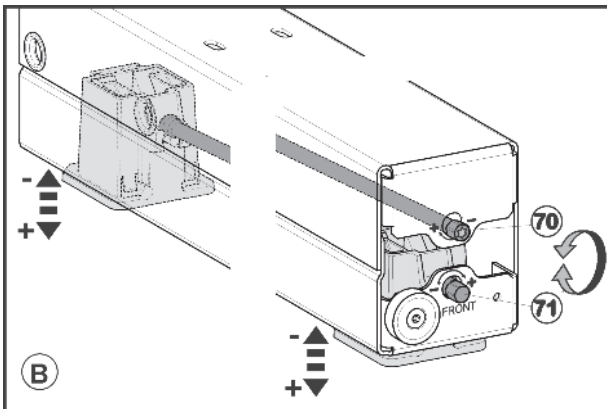

Fig. 43
- ▶ Align the height of both appliances evenly using the four roller bases. Use the upper adjustment setting (1/4") Fig. 43 (70) for the rear adjustment foot and the lower adjustment setting (1/4") Fig. 43 (71) for the front adjustment foot. Turn clockwise to raise and counter-clockwise to lower. Maximum adjustable height: 5/8 in (16 mm).